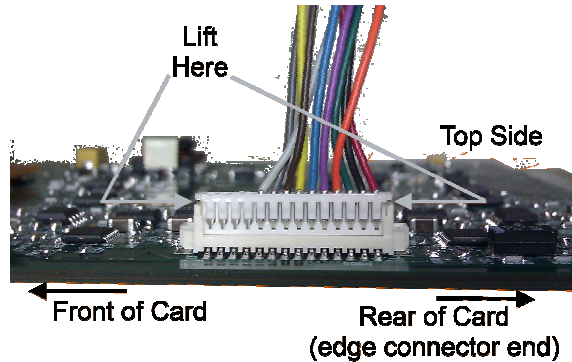

Figure 9.4—Transducer Connector Harness Connection
6. Gently and carefully remove the transducer connector harness from the IFPS card by simultaneously prying up both ends of the harness's board end connector using your fingernails. See the "Lift Here" call out in *Figure 9.4—Transducer Connector Harness Connection*.